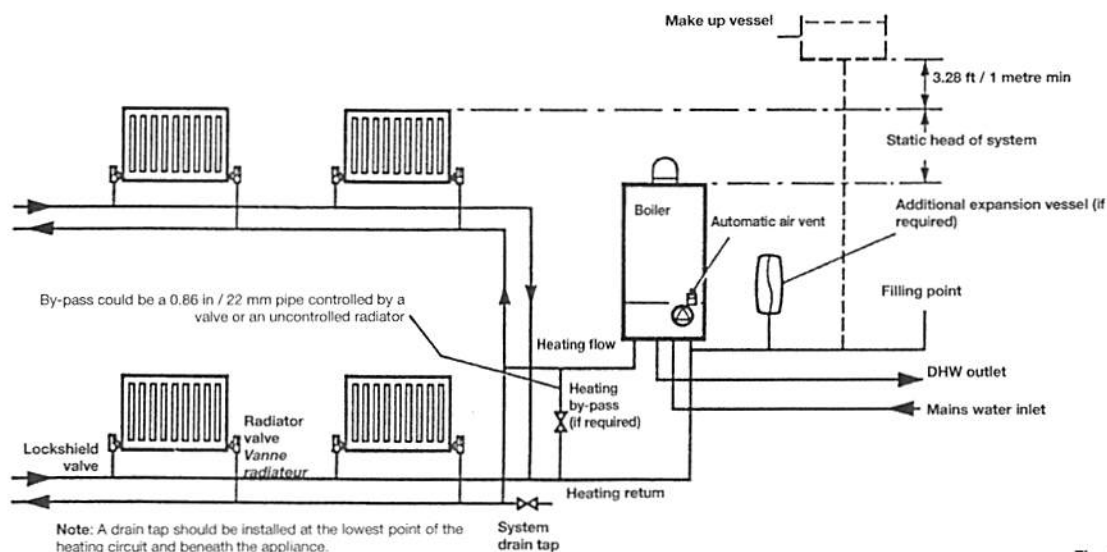

Fig. 17
3.7 CENTRAL HEATING SYSTEM - FIG. 17
The system design pressure (cold) should be set to (7.25-14.5) p.s.i. / (0.5-1) bar. This pressure is equivalent to the maximum static head (see Fig. 17) in bar + 0.3 (14.5 p.s.i. = 1 bar = 10.2 metres of water).